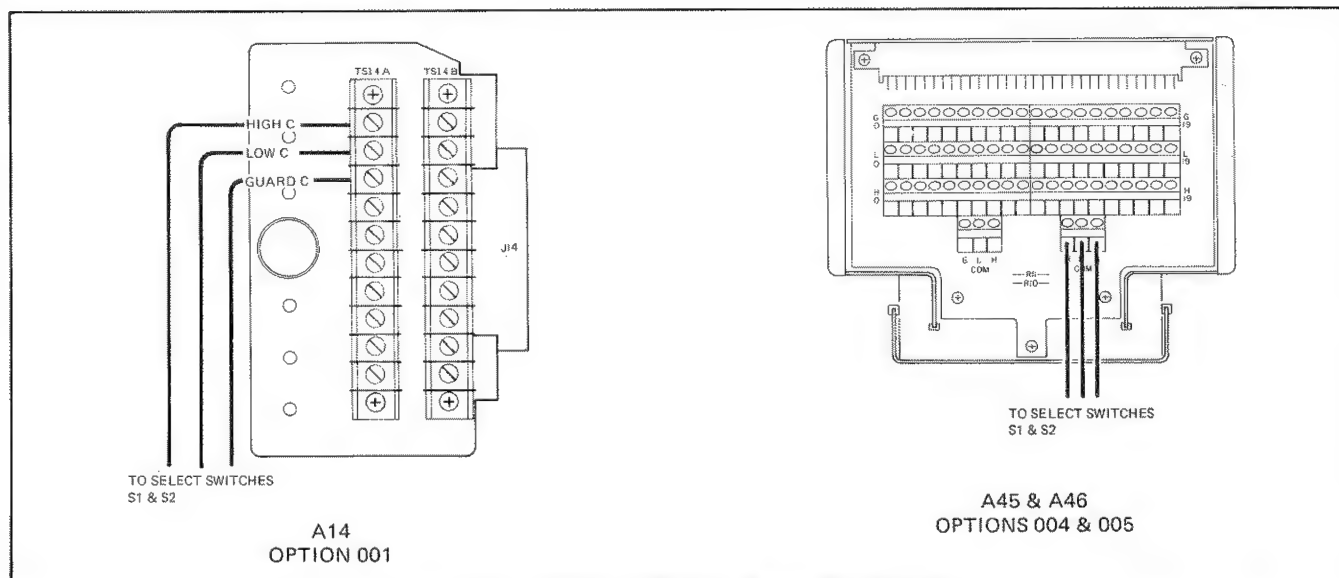

Figure 4-5. Channel Isolation Test Wiring Diagrams.
b. Wire the Option Connector as shown in Figure 4-5.